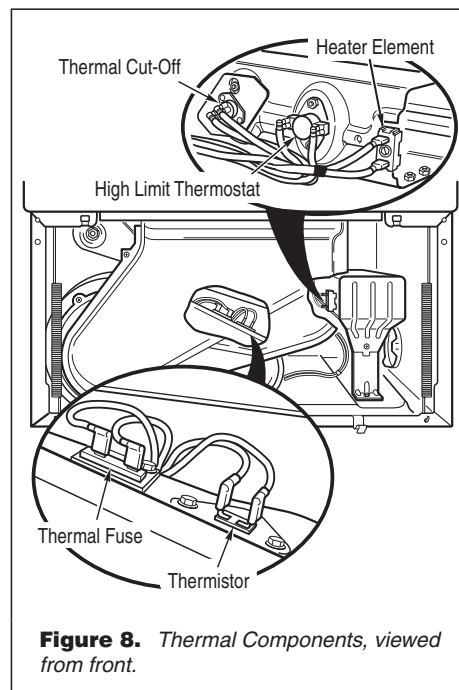

Figure 8. Thermal Components, viewed from front.
2. Remove the toe panel to access the thermal components. See figure 11, page 7. Locate the components using figure 8.
- Check wire connections at the machine control electronics and thermistor. See Accessing & Removing the Electronic Assemblies, page 7, and figure 8 for thermistor location.
- If wire connections are good, remove the two wires from the thermistor and replace the thermistor. See figure 8.
2. Access the thermal fuse by first removing the toe panel. See Removing the Toe Panel, page 7; and figure 8, page 4 for thermal fuse location.
3. Using an ohmmeter, check the continuity across the thermal cut-off. See figure 8, page 4, for location.